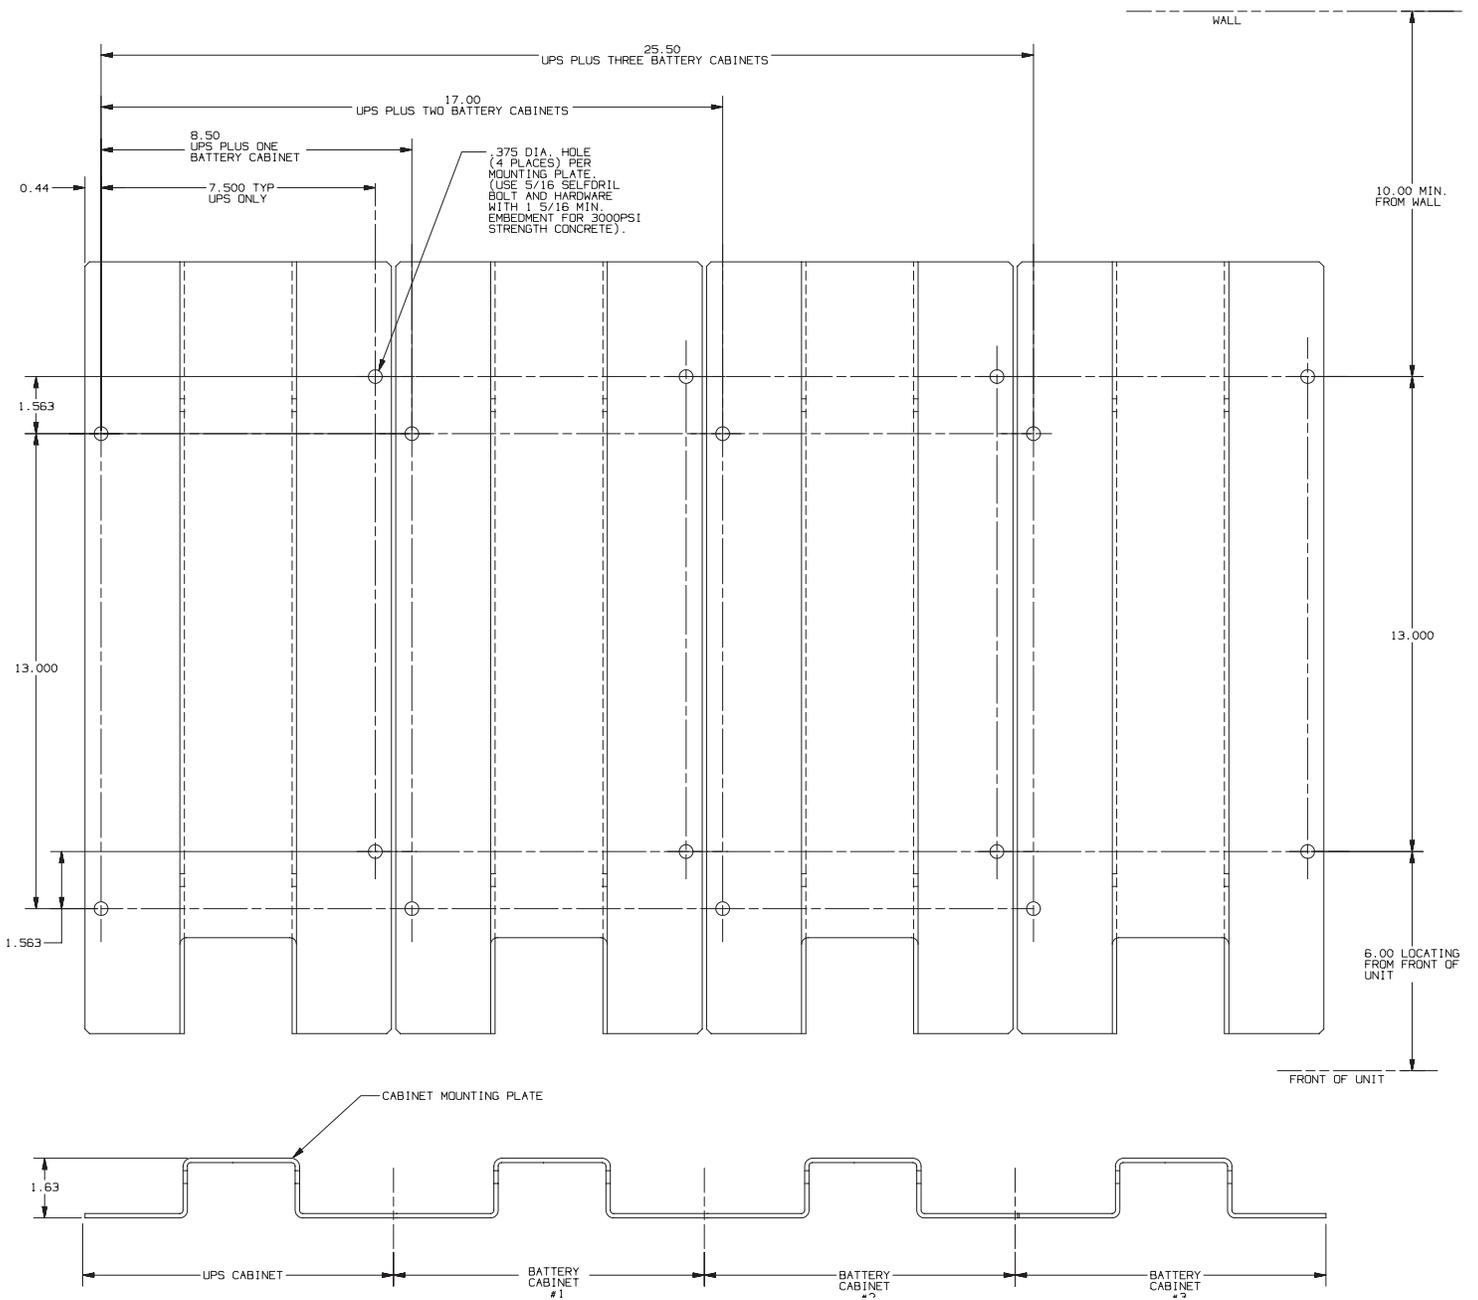

Figure 6. Seismic Installation Mounting Pattern
4. A seismic installation of the UPS requires that the mounting plates be bolted to the floor. See Figure 6 for a detailed drill and mounting pattern. If a seismic installation is not required, it is not necessary to bolt the mounting plates to the floor.